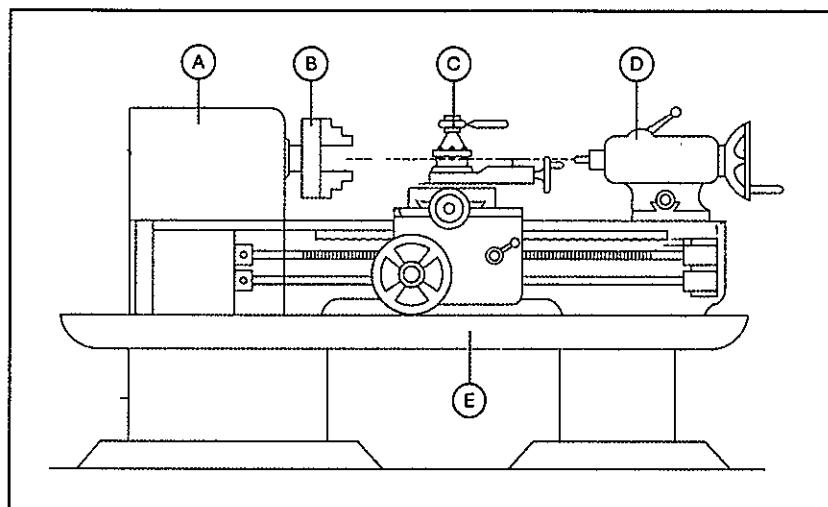

Figure 2a / Rajah 2a
- (a) Name the parts labeled **A**, **B**, **C**, **D** and **E** of the lathe machine in **Figure 2a** below.